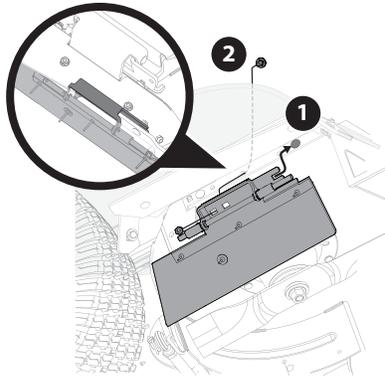

Figure 5
- Slide side discharge block-off assembly (631-05959) between chute deflector and deck (see inset, Figure 5), anchoring assembly over forward chute deflector screw. See (1) in Figure 5.
- Working from inside out, secure side discharge block-off assembly to deck with carriage screw (710-04821) and hex lock nut (712-3009). See (2) in Figure 5.